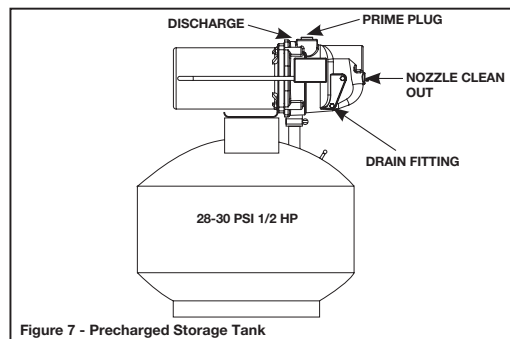

Figure 7 - Precharged Storage Tank
1. Remove drain fitting and prime plug to vent the system (see Figure 7).